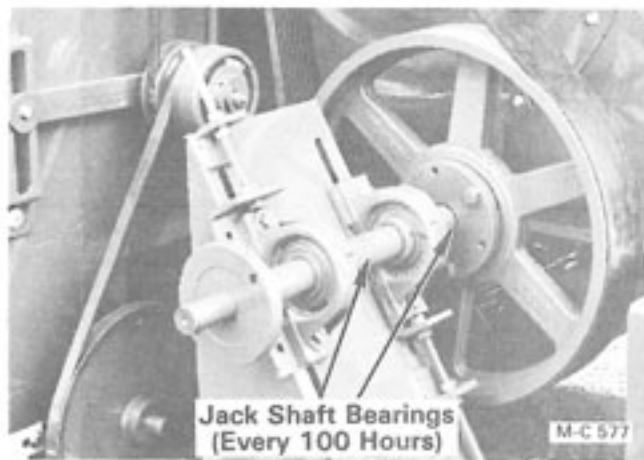

Figure 28
3. **Model 675B and 975B PTO Drive** - Lubricate the PTO jack shaft bearings, see Figure 28. Also lubricate the PTO shaft universal joints.